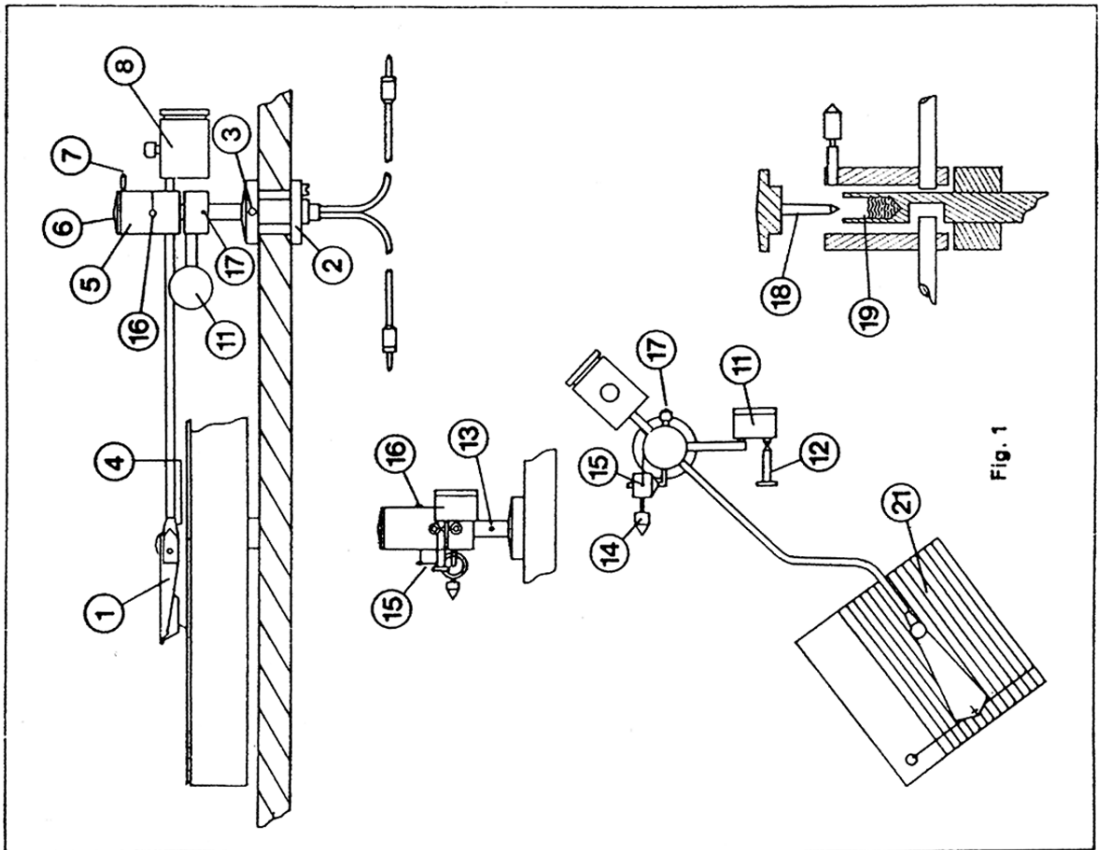

Fig. 1
and the headshell must run parallel to each other to ensure minimum tracking error. To correct any misalignment, slacken, with the aid of a suitable piece of $\frac{1}{8}$ in. (3 mm) rod or small screwdriver, the lower base nut using one of the holes for this purpose. The arm can now be moved until the correct alignment is achieved. Relock the arm, ensuring that the centre dot mark, fig. 1(13), on the support tube is facing the front of deck. At this stage the arm height can be set, using the lock screw, fig. 1(3), to ensure that the arm tube runs parallel to record, when in the playing position.
- 9 Should the need arise, there is provision to make lateral adjustments to the headshell assembly. The small grub screw, fig. 1(4), underneath the aluminium cone can be slackened and the assembly moved until the stylus plays in an upright position. This adjustment should not be made unless necessary, i.e. helmet and stylus must both be in vertical modes.
The whole lifting and cueing assembly, swings around the support tube, and a degree of damping is provided by applying the required tension to the thumbscrew, fig. 1(17).
- 1 Releasing the retaining nut, the headshell should be removed from the arm holding cone, fig. 1(4), carefully in one hand, using a side-to-side and easing movement with other hand. Extreme care must be exercised as damage to the internal wiring could result if force is used. Remove all transit rubber bands.
- 2 Release thumbscrew, fig. 1(7), and remove helmet cap and pivot assembly. From the small tube supplied, fill the well of the support tube to approximately halfway, fig. 1(19). Refit cap and pivot securely.
- 3 The bias assembly is positioned by using cotton thread tied to the split pin and following a path around the back of the helmet to the small slotted screw. The angle of the bias weight should be set as in fig. 1(15) with the arm in a parked position.
- 8 Place the template over the centre spindle of turntable platter, and, after slackening thumbscrew, fig. 1(17), move arm across and place stylus tip on point indicated. The lines of the template